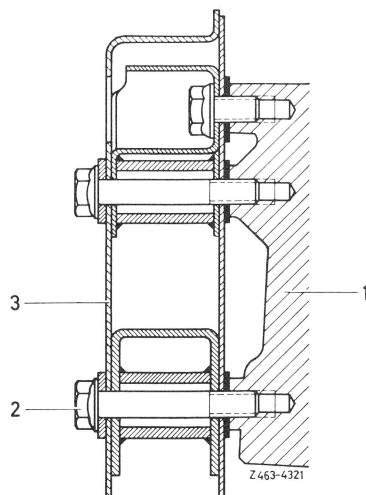

Fig. 6
**14** Attach steering with **three new** locking bolts (2) to side member (3) of frame. Tightening torque 60 Nm (6 kpm) (Fig. 6).